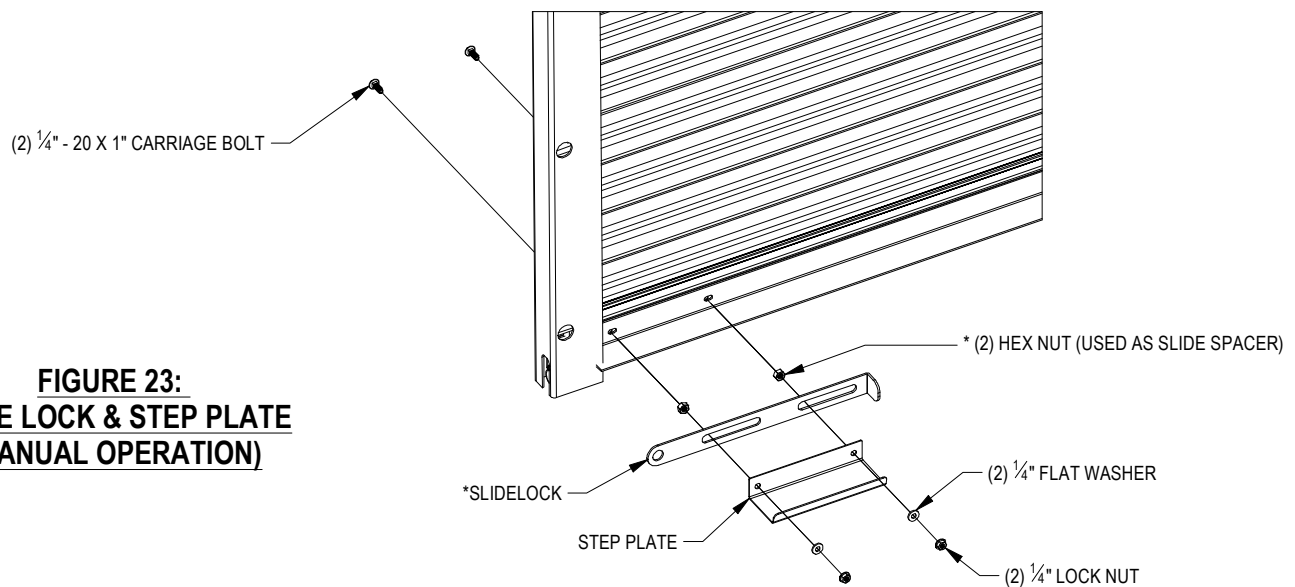

FIGURE 23:
- For manual operated doors, lower bottom bar and install slide lock and step plate using (2) $\frac{1}{4}$ " - 20 x 1" hex bolts, (2) $\frac{5}{16}$ " - 18 hex nuts, (2) $\frac{1}{4}$ " flat washers, and (2) $\frac{1}{4}$ " - 20 lock nuts. Do this at both ends of bottom bar. **See Figure 23.**
- *For electrically operated doors, lower bottom bar and install step plate using (2) $\frac{1}{4}$ " - 20 x 1" carriage bolts & (2) $\frac{1}{4}$ " - 20 serrated flange hex nuts. **See Figure 23.**